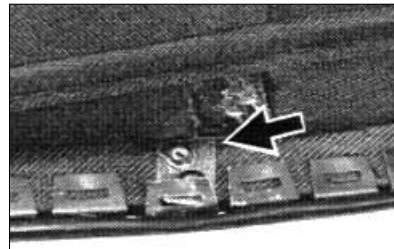

Figure 6
- Pull up the Cabrio top material in the area of the rear window. Cut the material approximately 25 mm next to the top longitudinal seam for 8mm (Figure 6)
- Bend open the steel tabs on the tensioning bow for the Cabrio top material and install the spring support as shown in Figure 6.